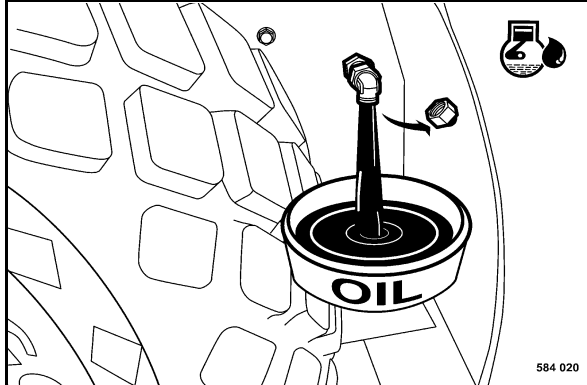

Fig. 140
- Unscrew the drain plug (Fig. 140) and catch running out oil.